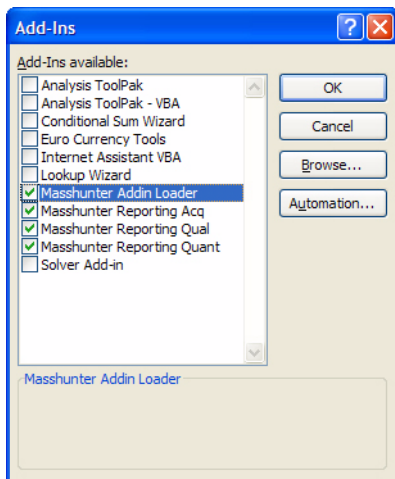

Figure 28 All MassHunter add-in check boxes marked
- 5 Verify that check boxes are marked for all add-ins that begin with **Masshunter**, then click **OK**. See Figure 28.